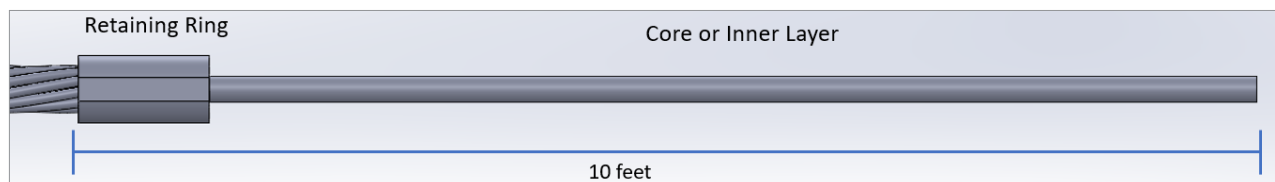

Figure 5
4. Return the outer strands to their original lay around the inner layer. Slide the retaining ring back down the cable flush with the cut strands (**Figure 5**).